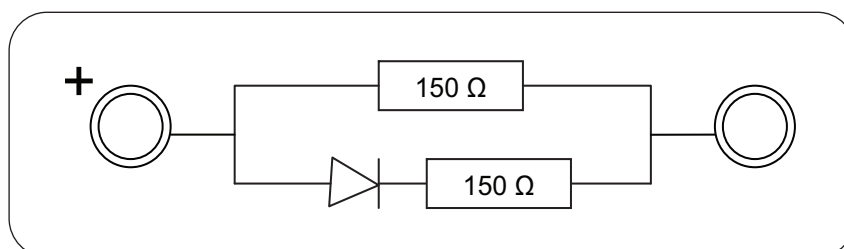

Fig. 2.1
- (d) Solder the diode to a 150 Ω resistor so they are in series and solder both into the channel so that the diode anode is attached to the LH socket (viewed from the outside). Solder a second 150 Ω resistor in parallel with the diode and the first 150 Ω resistor. Label this component channel 'Q'. Mark the LH socket '+' and use masking tape to cover the resistors and diode so that they cannot be seen. See **Fig. 2.1**.